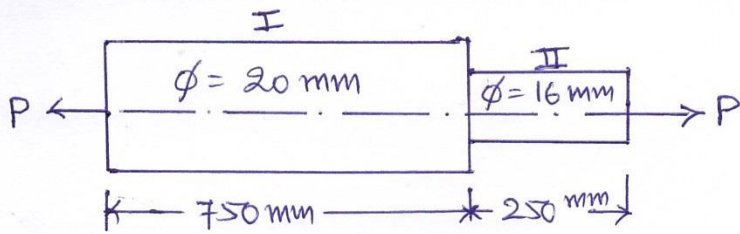

fig. 1
- (c) A mild steel specimen as shown in fig.1 is subjected to a tensile force P, due to which the length of I portion of specimen increases by 20 mm. Find the value of force P and increase in the length of II portion of the specimen. Take  $E = 2 \times 10^5 \text{ N/mm}^2$  **04**